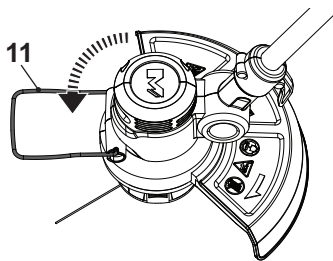

Fig. 5, trimming position
1. Rotate the plant protector (11) forward until it locks in place for trimming operation (Fig. 5).